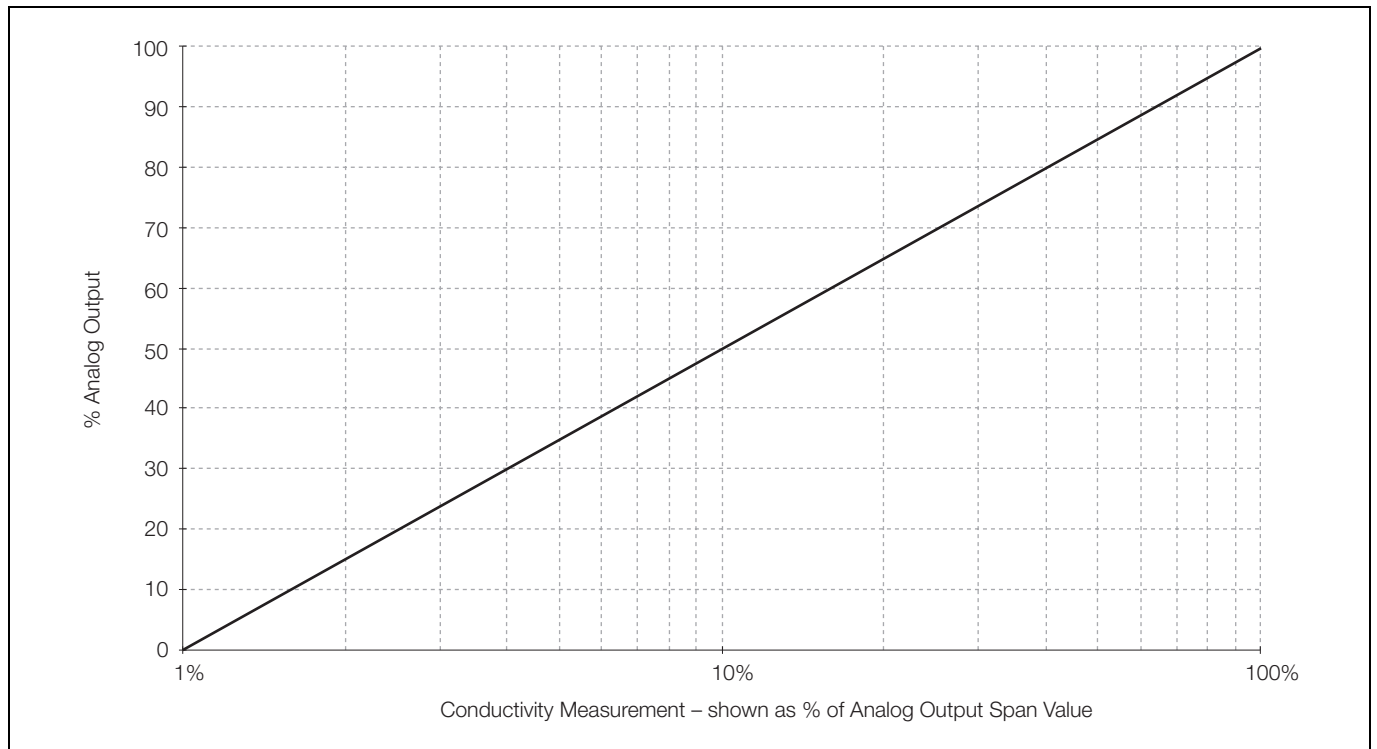

Fig. 5.7 Logarithmic Output (2-Decade)
- Log. 2** – Logarithmic, 2-decades – see Fig. 5.7 on page 39
5.6.2 Logarithmic Output (2-decade) – Fig. 5.7